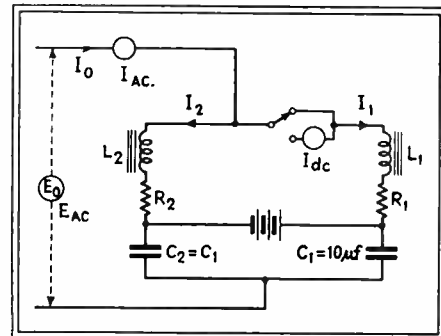

Fig. 3—Working circuit diagram for inductance measurement
Using this equation the procedure to be followed in ascertaining the incremental inductance of a coil, which we shall term coil (1), is to connect this coil in parallel with an exactly similar coil (2), as shown in Fig. 3. The bat-